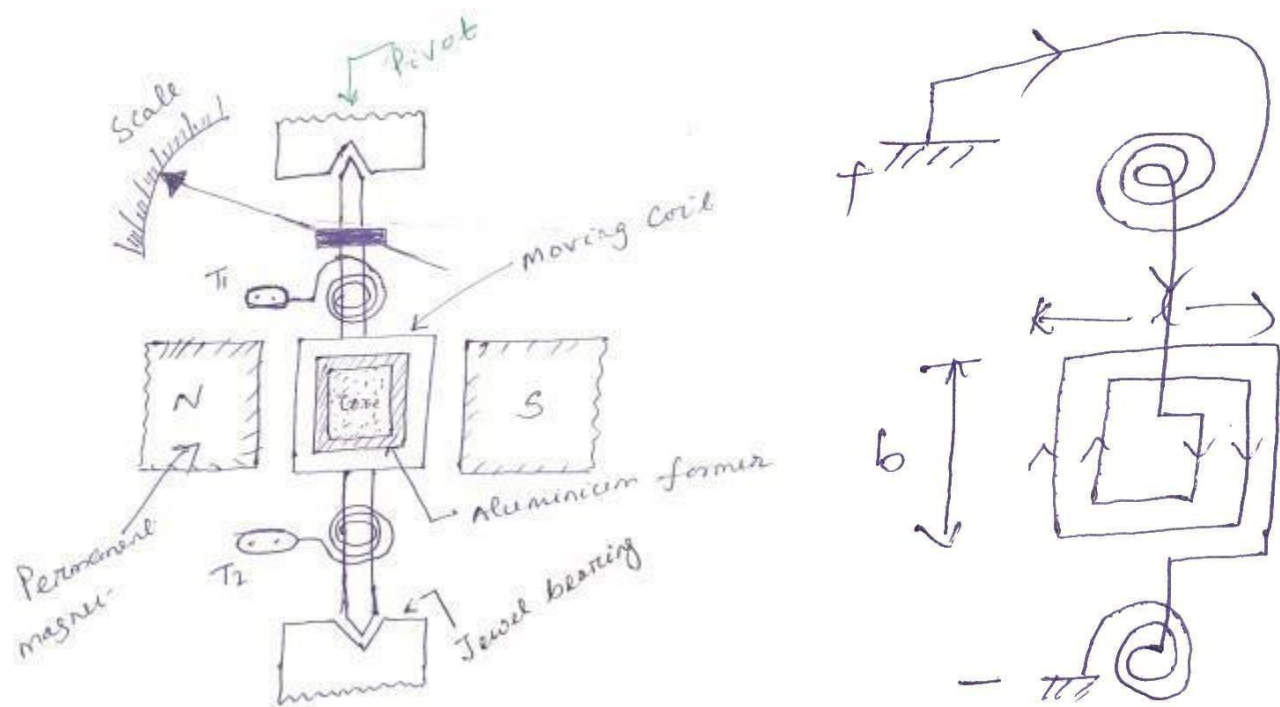

Fig. 1.7
**Construction:** A permanent magnet is used in this type instrument. Aluminum former is provided in the cylindrical in between two poles of the permanent magnet (Fig. 1.7). Coils are wound on the aluminum former which is connected with the spindle. This spindle is supported with jeweled bearing. Two springs are attached on either end of the spindle. The terminals of the moving coils are connected to the spring. Therefore the current flows through spring 1, moving coil and spring 2.